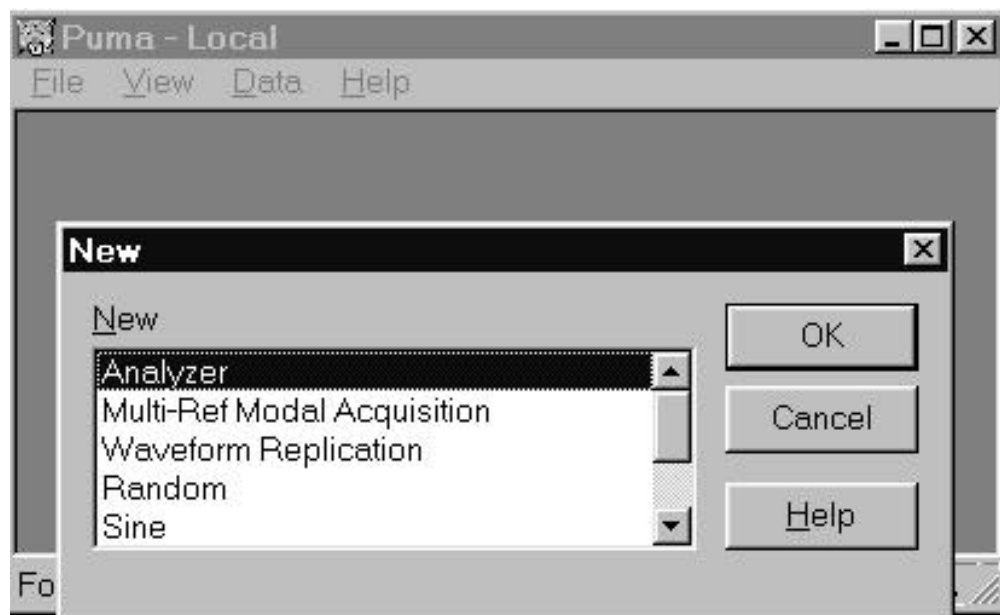

Figure 3-7. NEW Dialog Box
1. Click **FILE** ⇒ **NEW**. The {New} Dialog Box appears. See Figure 3-7.